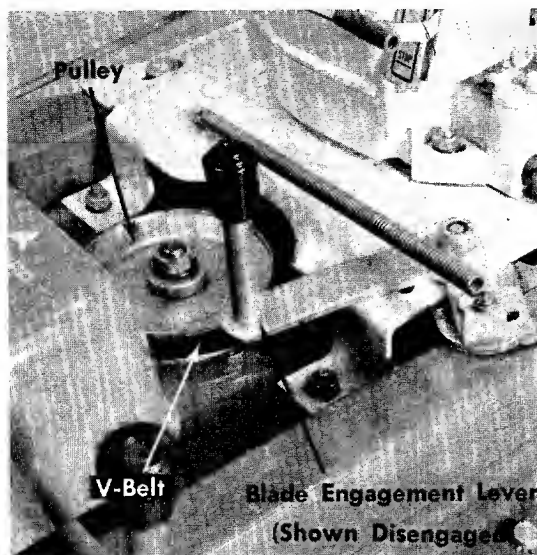
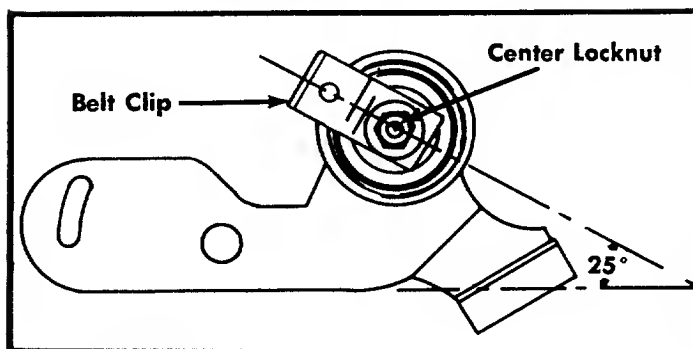

FIGURE 25. BLADE ENGAGEMENT LEVER
FIGURE 26. BELT IDLER
Step 5. Remove the belt from the transmission idler. See figure 25.
Step 5. Place the blade engagement lever in the engaged position (See figure 25.) and loosen the center locknut on the blade idler. See figure 26.
Use a 1/2" open end wrench. When installing the new belt be sure the belt clip is in the same position as shown in figure 26.